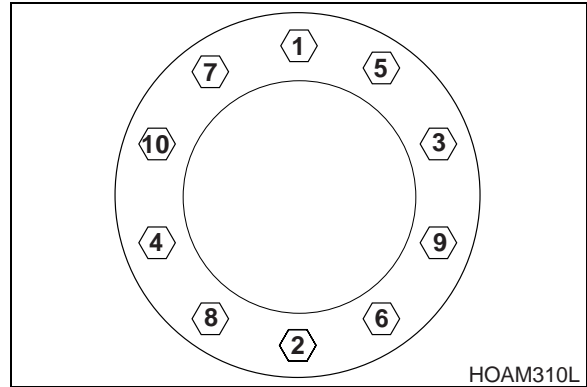

Figure 124
9. Follow tightening pattern (Figure 124) when tightening wheel nuts. Tighten to specified torque. (Tightening torque 400 - 434 ft lb / 55 - 60 kg•m.)